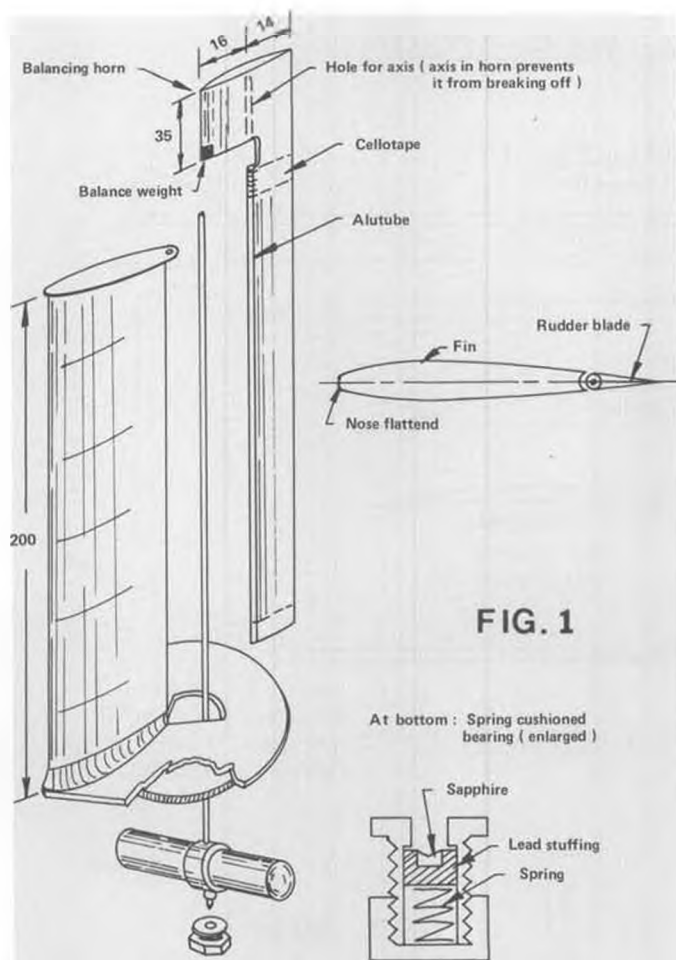
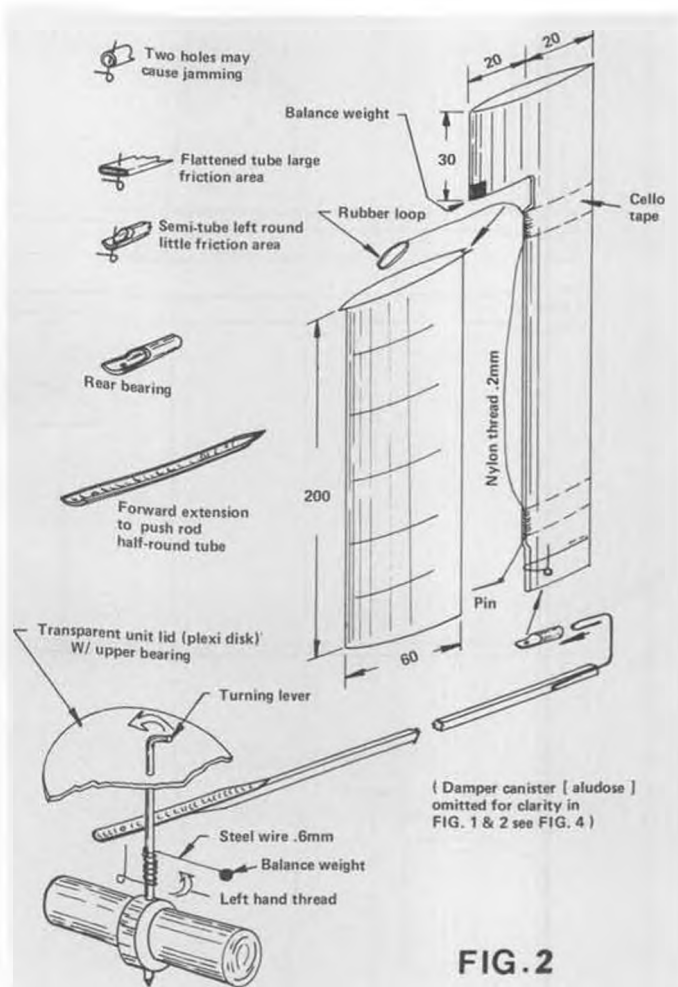

FIG. 1
FIG. 2
A very high fin of small chord and a narrow, aerodynamically well-balanced rudder is employed, so that the aerodynamic forces attacking the rudder near the axis can be overcome by the directional forces (Fig. 1). The directional forces can also be transmitted to the rear-fin by means of a pushing rod (Fig. 2). These two types of steering; head and rear steering, proved to be superior to those with servo-mechanism, i.e., electro-magnet steering gears with rudder machines and the like. The permanent availability of the directional forces and the little weight, just good for nose ballast, allow a new technique of slope riding, unknown so far in aeromodelling.
3. Greatest care is taken to the bearing application: Tubes with double holes will jam. But by flattening the tube, the friction area is increased. Thus the best way is to use a half-tube of brass. First we inserted beads. However, friction is less when the half-tube rests on the thin wire arm directly, so we discarded the beads. Fig. 2 shows the bearing application.